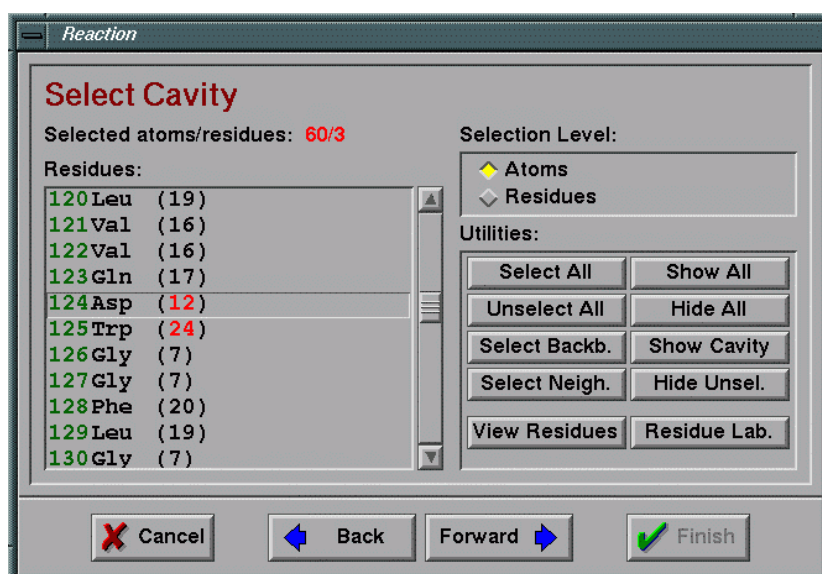

Fig 13.13 Window for selection of residues for cavity
- 9) Select the amino acid residues for the reaction (**Fig 13.13**). These residues will become a part of the active site model. Selection can be achieved in several different ways. You can choose the residues by clicking on their names in the *Residues* list. The number in brackets behind the residue code shows the number of atoms forming this residue. You can also open the list of residues by checking the button *View Residues* and choose residue by clicking on it while holding <Ctrl>. Another option for selecting the model is to use *Select Neigh.* option, which allows you to select the residues within specified radius from defined atom/residue. The number *Selected atoms/residues* shows the total number of atoms/residues in selected model. All selected residues are also shown in 3D model window.
- Check the Asp124 and set it as the residue, forming cavity in *List of Residues* (**Fig 13.13**).